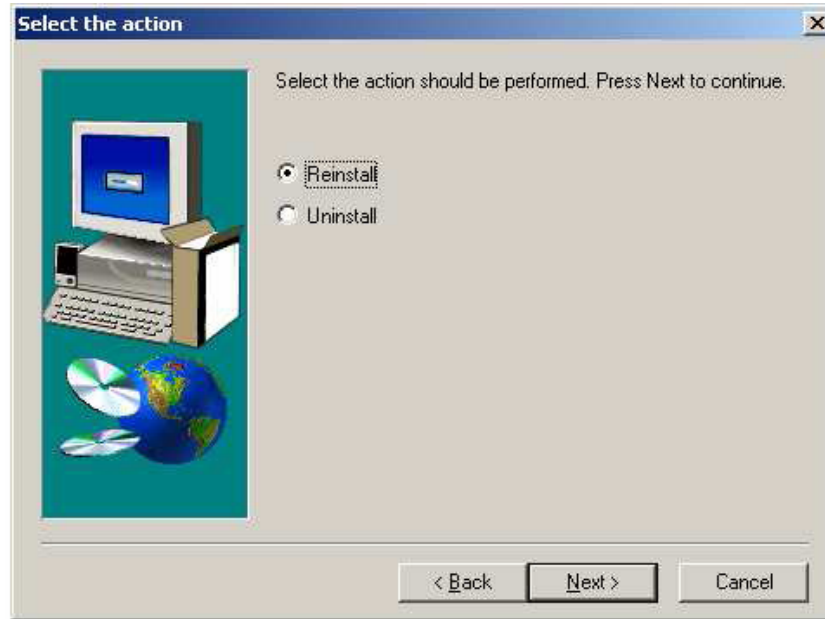

Figure 4-3. Choose Action
1. If the installer finds the NORMA View Plug-in on your computer, the next screen will be displayed, as shown in Figure 4-3.